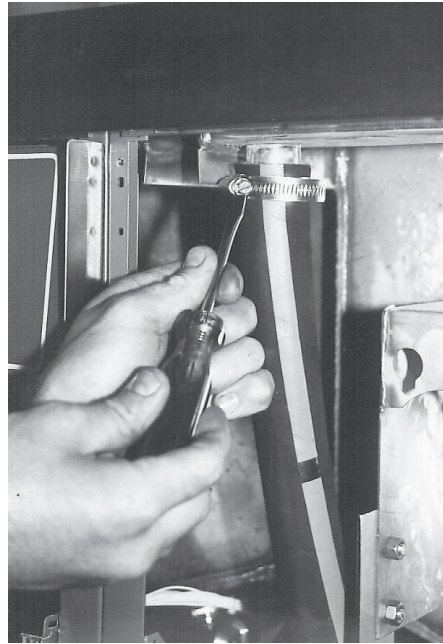

Fig. 44
5. With a standard flat blade screwdriver, loosen the hose clamp. (Fig. 44)